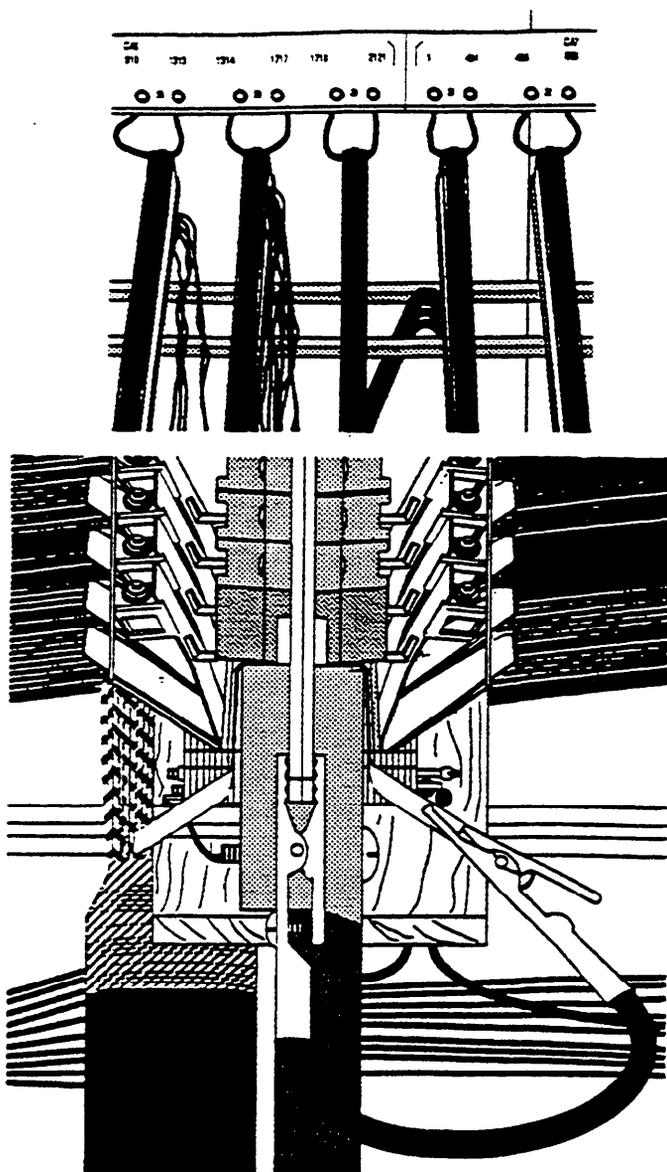

Figure 6. Bottom View: Lower End of a Protector Vertical to Show Placement of Cord
3.01 Ground the alarm tell-tale strip at the bottom of each side of each vertical (See Figure 6).